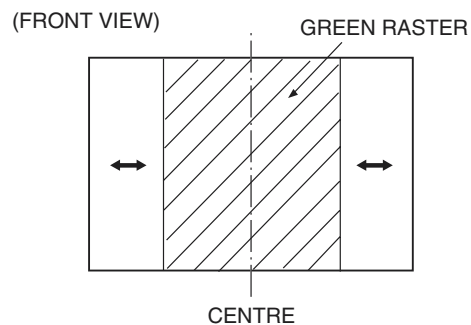

Fig. 3
7. Adjust the gap between two lugs so that the GREEN RASTER will come into the center of the screen. (Fig. 3)